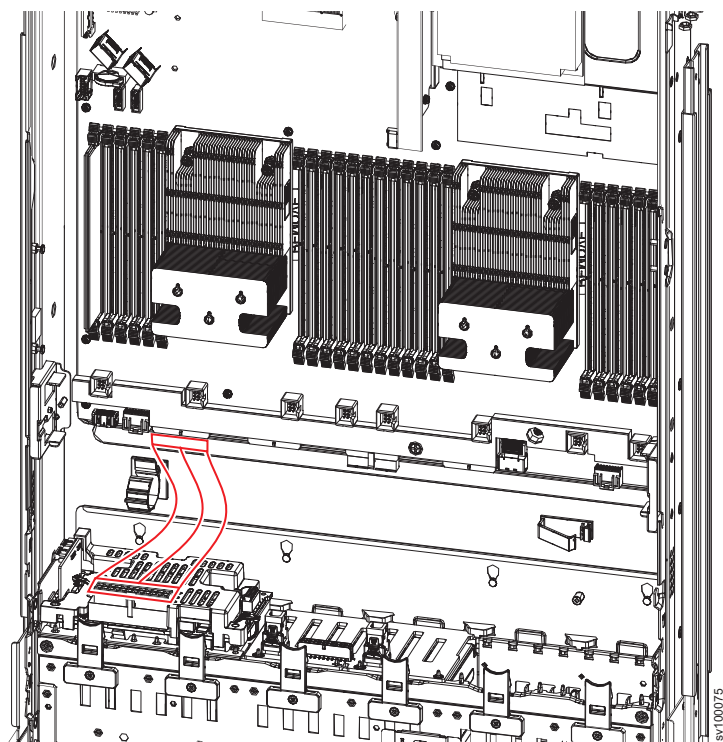

Figure 166. 2145-SV1 battery backplane power cable
5. Attach the battery backplane power cable to the main board, if needed, as shown in Figure 166 on page 201.